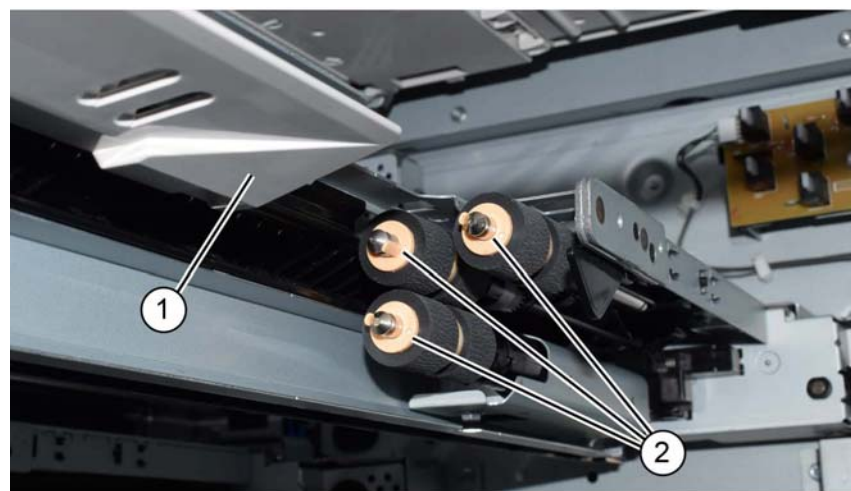

Figure 1 Roll removal
4. Remove the tray 4 feed, retard and nudger rolls, Figure 1:
- a. Slide the chute (1) forwards.
- b. Release the clip, then remove the tray 4 feed, retard and nudger rolls (2).